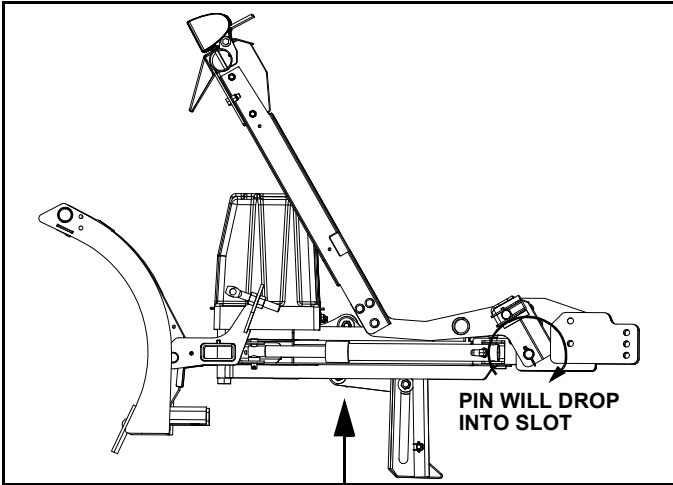

Figure 1-17
3. Rotate light/lift bar into position by turning on down pressure and pressing the lower button. (See Figure 1-17).